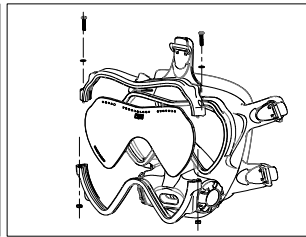

FIGURE 2
2. Remove upper and lower frame prior to removing lens from the skirt (Fig. 2)